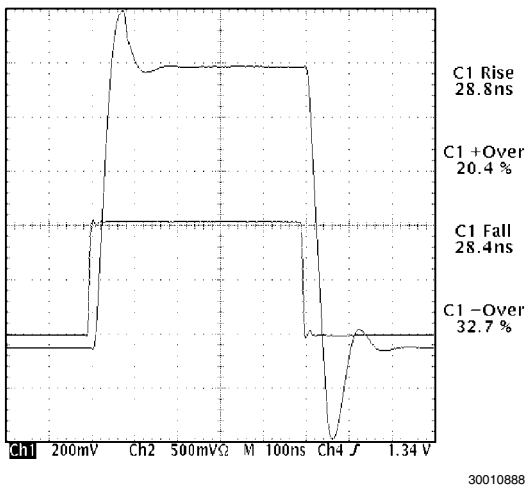

**FIGURE 13. LMP7717 with Lead-Lag Compensation for Non-Inverting Configuration**
than the fully compensated parts. *Figure 13* shows the gain = 1, or the buffer configuration, for these parts.
*Figure 13* is the result of using *Equation 5* and additional experimentation in the lab.  $R_P$  is not part of *Equation 5*, but it is necessary to introduce another pole at the input stage for good performance at gain = +1. *Equation 5* is shown below with  $R_{IN} = \infty$ .
Using 2 k $\Omega$  for  $R_F$  and solving for  $R_C$  gives  $R_C = 2000/6.9 = 290\Omega$ . The closest standard value for  $R_C$  is 300 $\Omega$ . After some fine tuning in the lab  $R_C = 330\Omega$  and  $R_P = 1.5 \text{ k}\Omega$  were chosen as the optimum values.  $R_P$  together with the input capacitance at the non-inverting pin inserts another pole into the compensation for the LMP7717. Adding this pole and slightly reducing the compensation for 1/F (using a slightly higher resistor value for  $R_C$ ) gives the optimum response for a gain of +1. *Figure 14* is the response of the circuit shown in *Figure 13*. *Figure 15* shows the response of the LMP7715 in the buffer configuration with no compensation and  $R_P = R_F = 0$ .